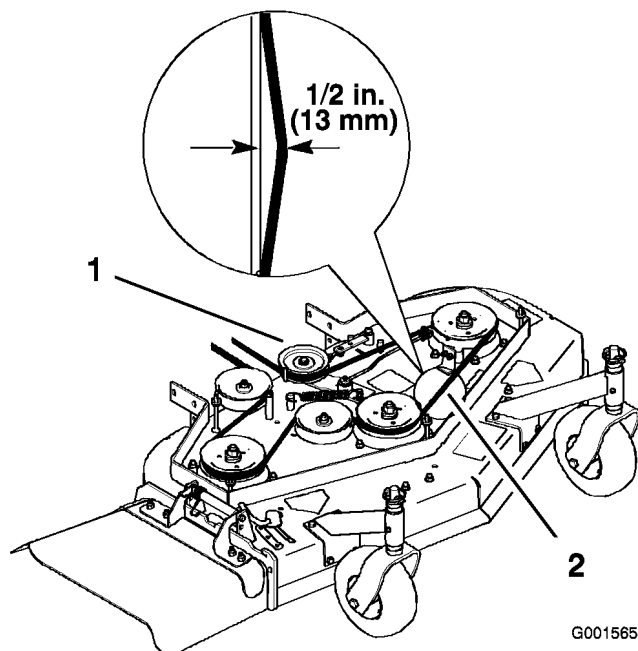

Figure 47
4. Remove the idler pulley and the worn belt (Figure 47).
Note: The proper mower belt tension is 10-15 lbf. (44-67 N) with the belt deflected 1/2 inch (13 mm) halfway between the pulleys (Figure 47).